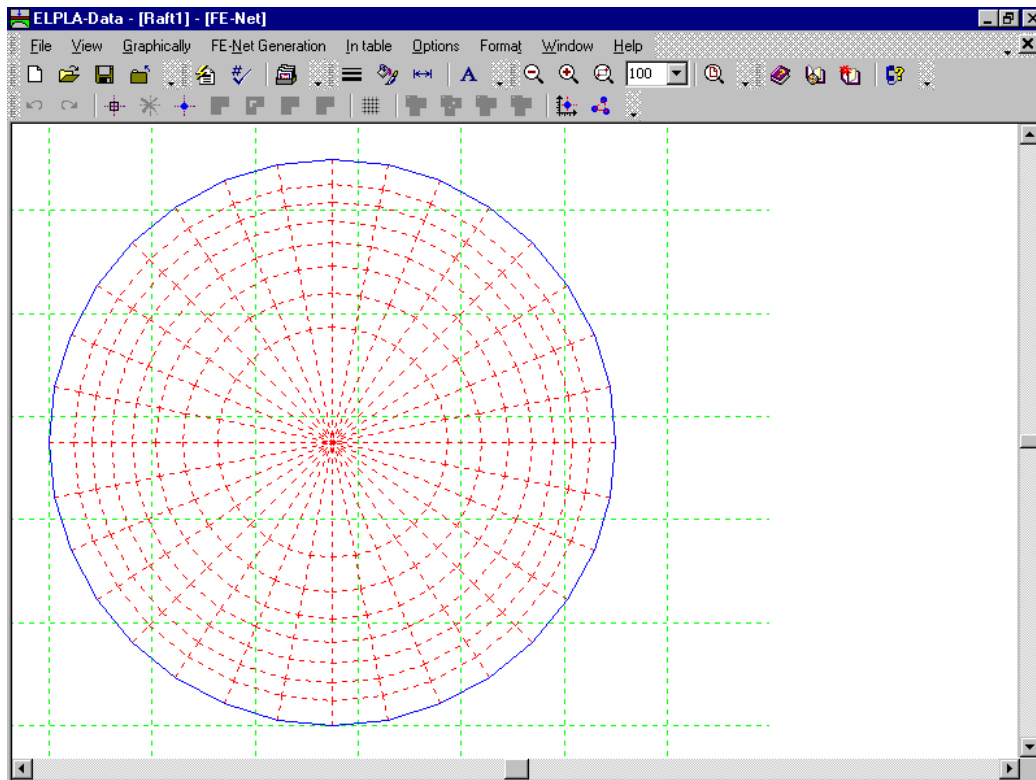

Figure 3-12 FE-Net on the screen
Click "Finish" button in the "Generation parameters" form. *ELPLA* will generate a suitable FE-Net for the circular raft of 22 [m] diameter with a combination of triangle and rectangular elements, which have equal areas. The following embedded program in Figure 3-12 appears with the generated net.
- Choose "Save FE-Net" command from "File" menu in Figure 3-12 to save the data of the FE-Net
- Choose "Close FE-Net" command from "File" menu in Figure 3-12 to close "FE-Net" embedded program and to return to the main window of *ELPLA-Data*